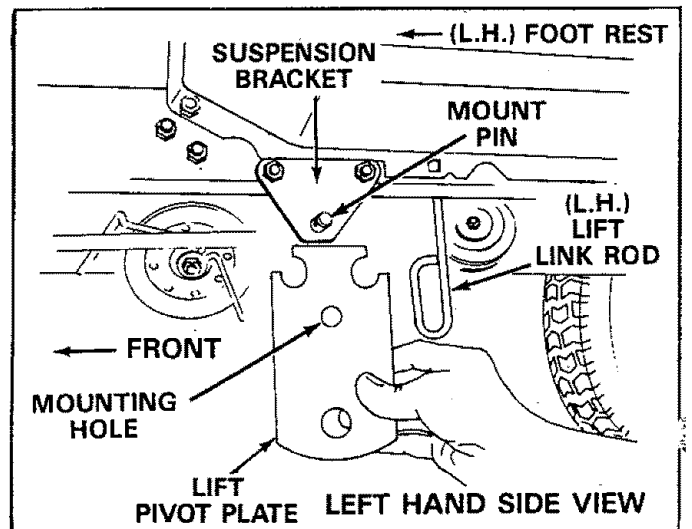
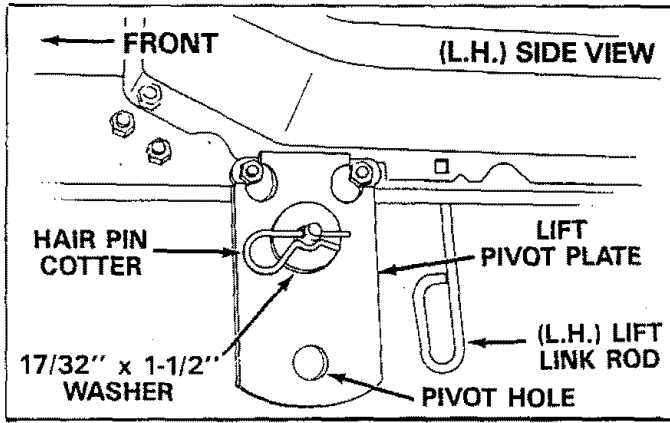

FIGURE 13
FIGURE 14
- Assemble the lift pivot plate under the left hand foot rest of the tractor and over the suspension bracket mount pin. See figure 13. Secure with one 17/32" x 1-1/2" flat washer and one hairpin cotter. See figure 14. Do not assemble the lift pivot plate under the right hand foot rest at this time.